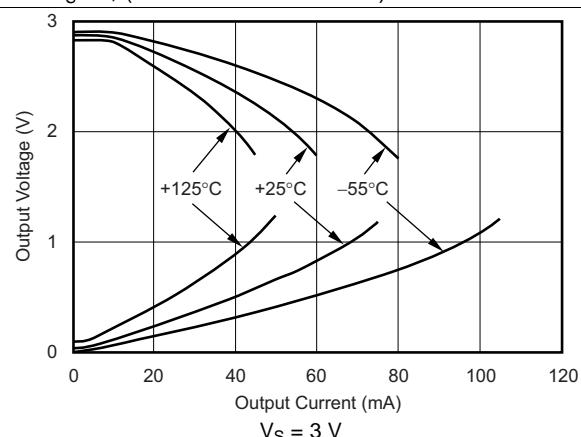
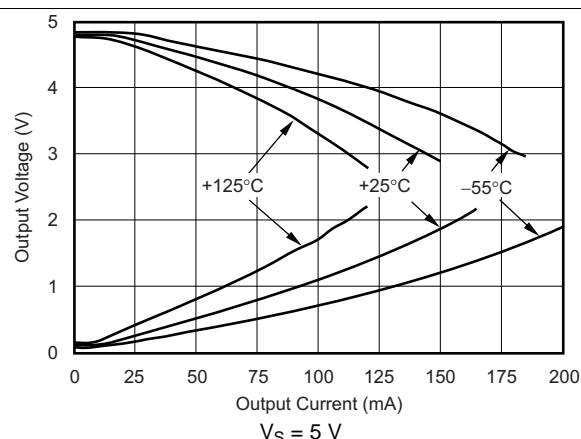
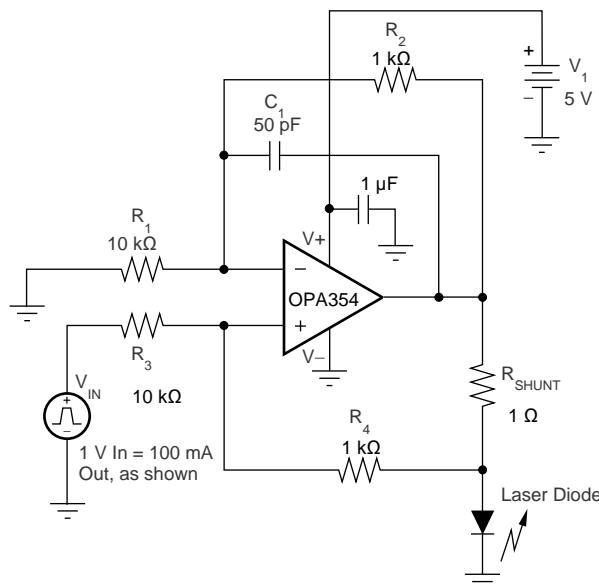
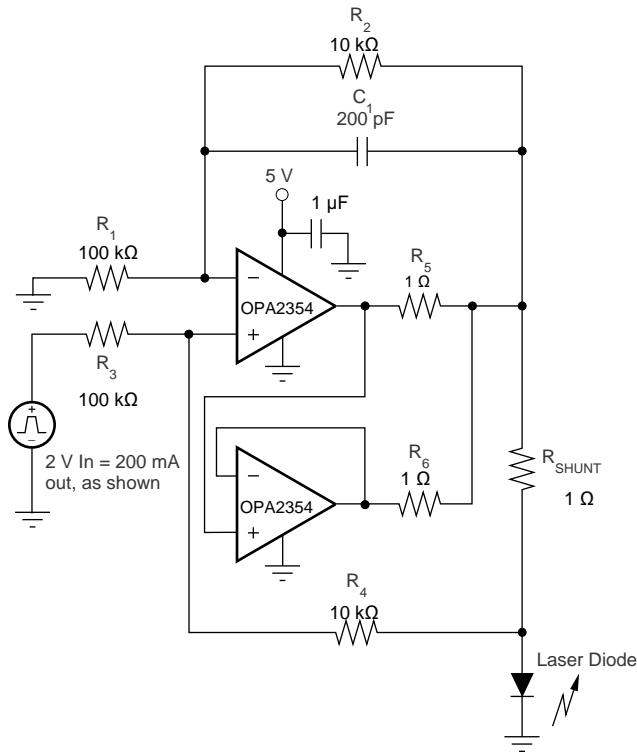

Figure 20. Output Voltage Swing vs Output Current
Figure 22. Output Voltage Swing vs Output Current
Figure 30. Laser Diode Driver
Figure 31. Parallel Operation
(1) See typical characteristic curves, *Output Voltage Swing vs Output Current* (Figure 20 and Figure 22).
(2) Specified by design.
A class AB output stage with common-source transistors achieves rail-to-rail output. For high-impedance loads ($> 200 \Omega$), the output voltage swing is typically 100 mV from the supply rails. With 10Ω loads, a useful output swing is achieved while maintaining high open-loop gain. See the typical characteristic curves, *Output Voltage Swing vs Output Current* (Figure 20 and Figure 22).
The OPAX354 output stage supplies a continuous output current of ± 100 mA and yet provide approximately 2.7 V of output swing on a 5-V supply, as shown in Figure 30. For maximum reliability, TI does not recommend running a continuous DC current in excess of ± 100 mA. See the typical characteristic curves, *Output Voltage Swing vs Output Current* (Figure 20 and Figure 22). For supplying continuous output currents greater than ± 100 mA, the OPAX354 may be operated in parallel, as shown in Figure 31.